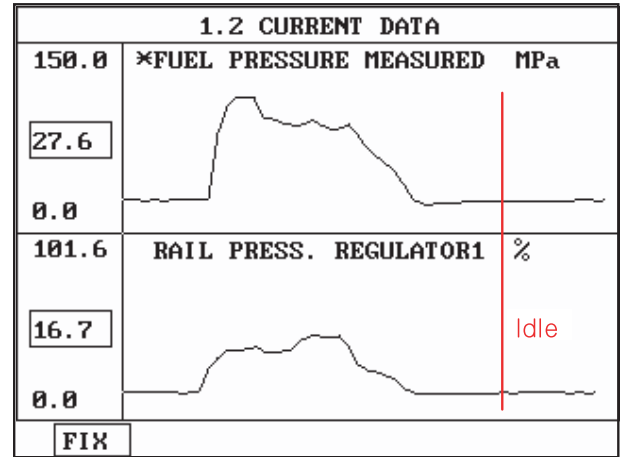

Fig.2
- Fig.2) Fuel pressure and Fuel pressure regulator valve data at idle.